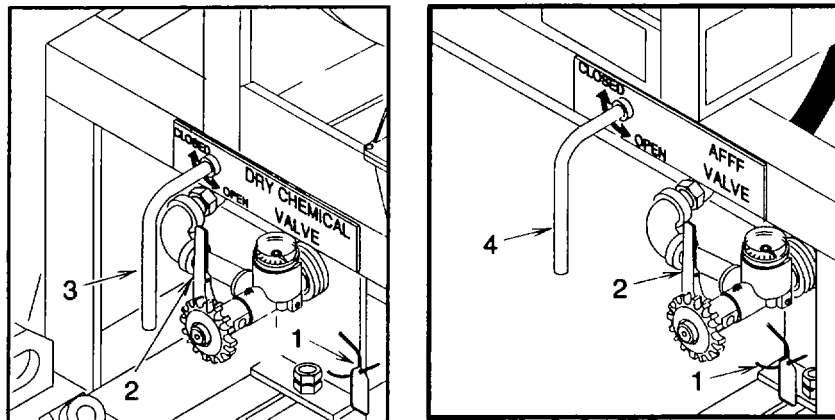

Figure 2-15. Close Chemical Agent Shut-off Valves
- (1) Completely unwind hose assembly from drum. If auxiliary mobile hose reel cart was used, both hose assemblies must be unwound.
- (2) Close dry chemical and AFFF tank ball valve rods (1) (fig. 2-15).